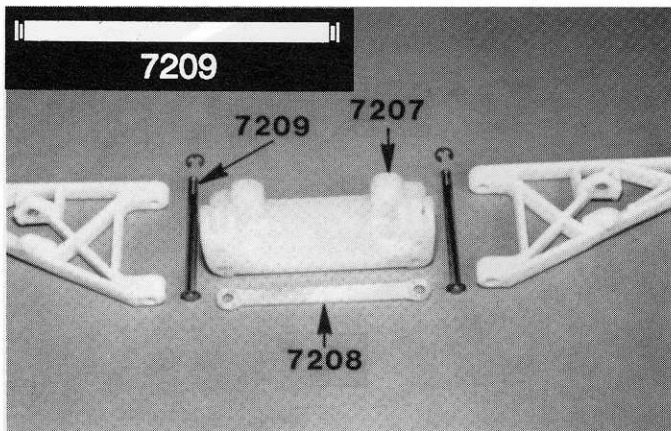

Fig. 10
□ **Figs. 10 & 11** From Bag #7-1 take out the #7207 front bulkhead, the #7208 aluminum support and the #7209 inner hinge pins. Try the pins in the A-arms again and see how they fit. Free them up if necessary. We want the pins to be tight in the bulkhead. Assemble the front arms to the bulkhead as shown. Secure with e-clips.